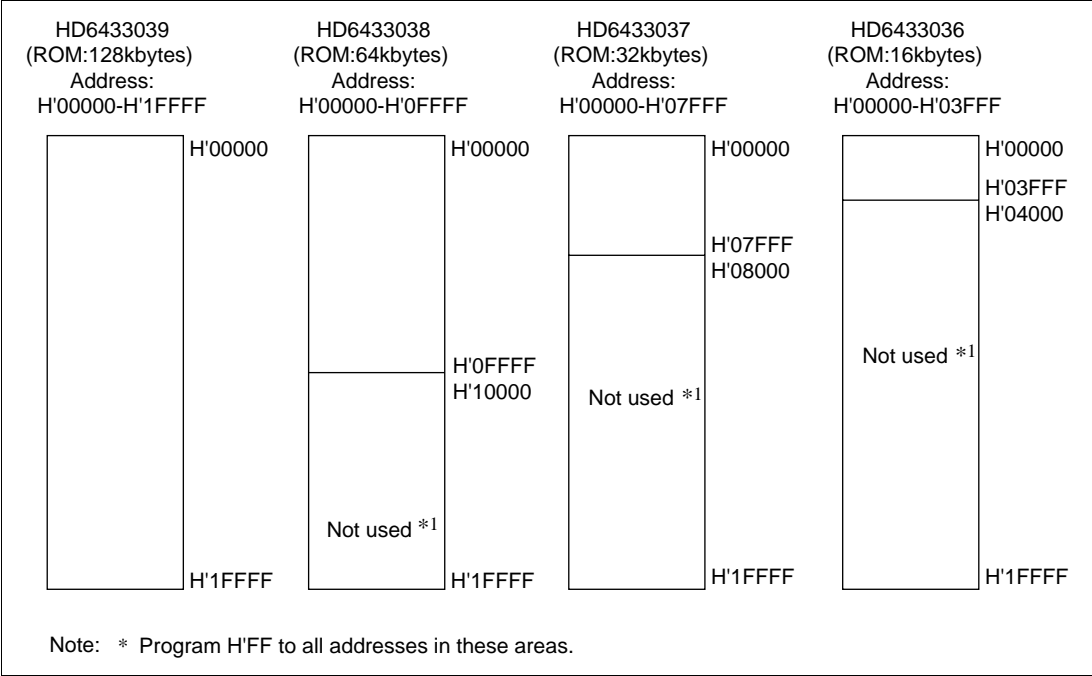

Figure 15-29 Mask ROM Addresses and Data
- Fill all the unused addresses with H'FF as shown in figure15-29 to make the ROM data size 128 kbytes for all H8/3039 Series chips, which incorporate different sizes of ROM. This applies to ordering through an EPROM and through electrical data transfer.